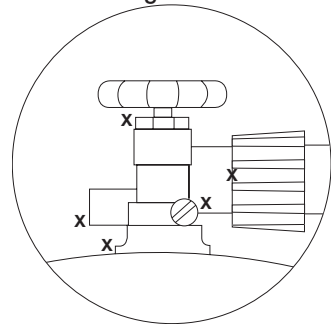

Figure 5
8. If igniter does not light burner, use a lit match secured with the lighting rod provided to light burners manually. Access the burners through the cooking grid and heat plates. Position the lit match near side of the burner. (Figure 5)